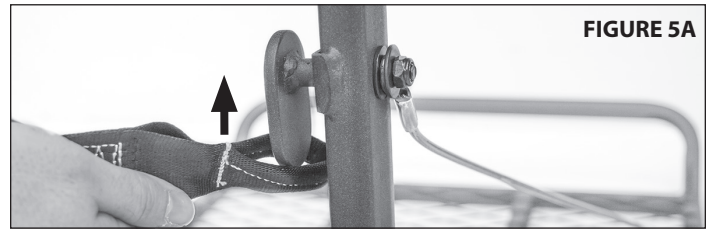

FIGURE 5A
1. The Big Foot strap (18063) can be attached so that the sewn loop side with the float buckle can be put on either side of the treestand depending on your left or right hand installation preference. Make sure to always orientate climbing aid to the float buckle side of the strap. Start by attaching the sewn loop of the long side strap to either the left or right side of treestand by sliding sewn loop completely over the oval mount. **SEE FIGURES 5A AND 5B.**